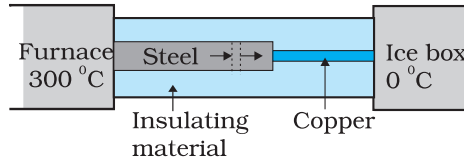

Fig. 10.15
► **Example 10.6** What is the temperature of the steel-copper junction in the steady state of the system shown in Fig. 10.15. Length of the steel rod = 15.0 cm, length of the copper rod = 10.0 cm, temperature of the furnace = 300°C , temperature of the other end = 0°C . The area of cross section of the steel rod is twice that of the copper rod. (Thermal conductivity of steel = $50.2 \text{ J s}^{-1} \text{m}^{-1} \text{K}^{-1}$; and of copper = $385 \text{ J s}^{-1} \text{m}^{-1} \text{K}^{-1}$).